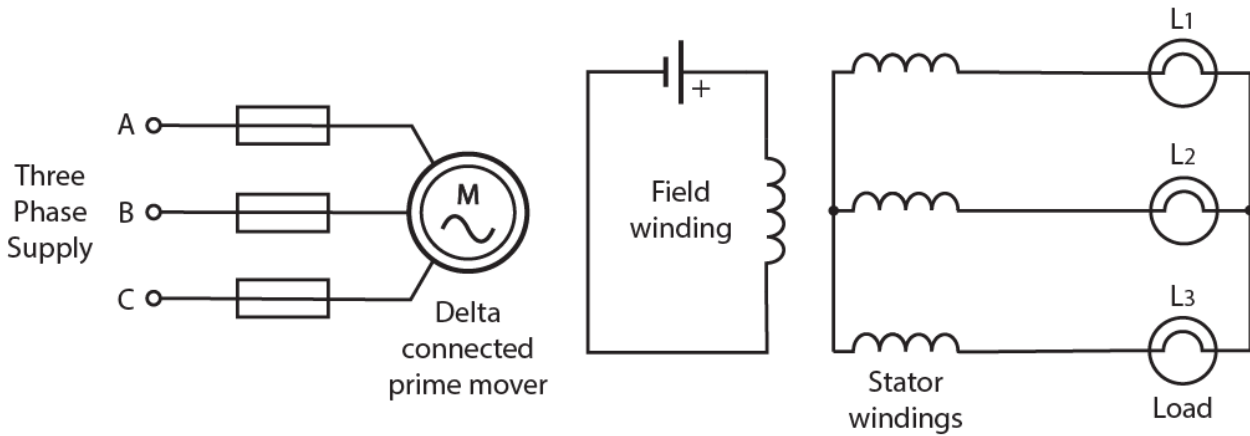

Figure 1
2.1.1 Connect up the three phase alternator circuit as shown in Figure 1.